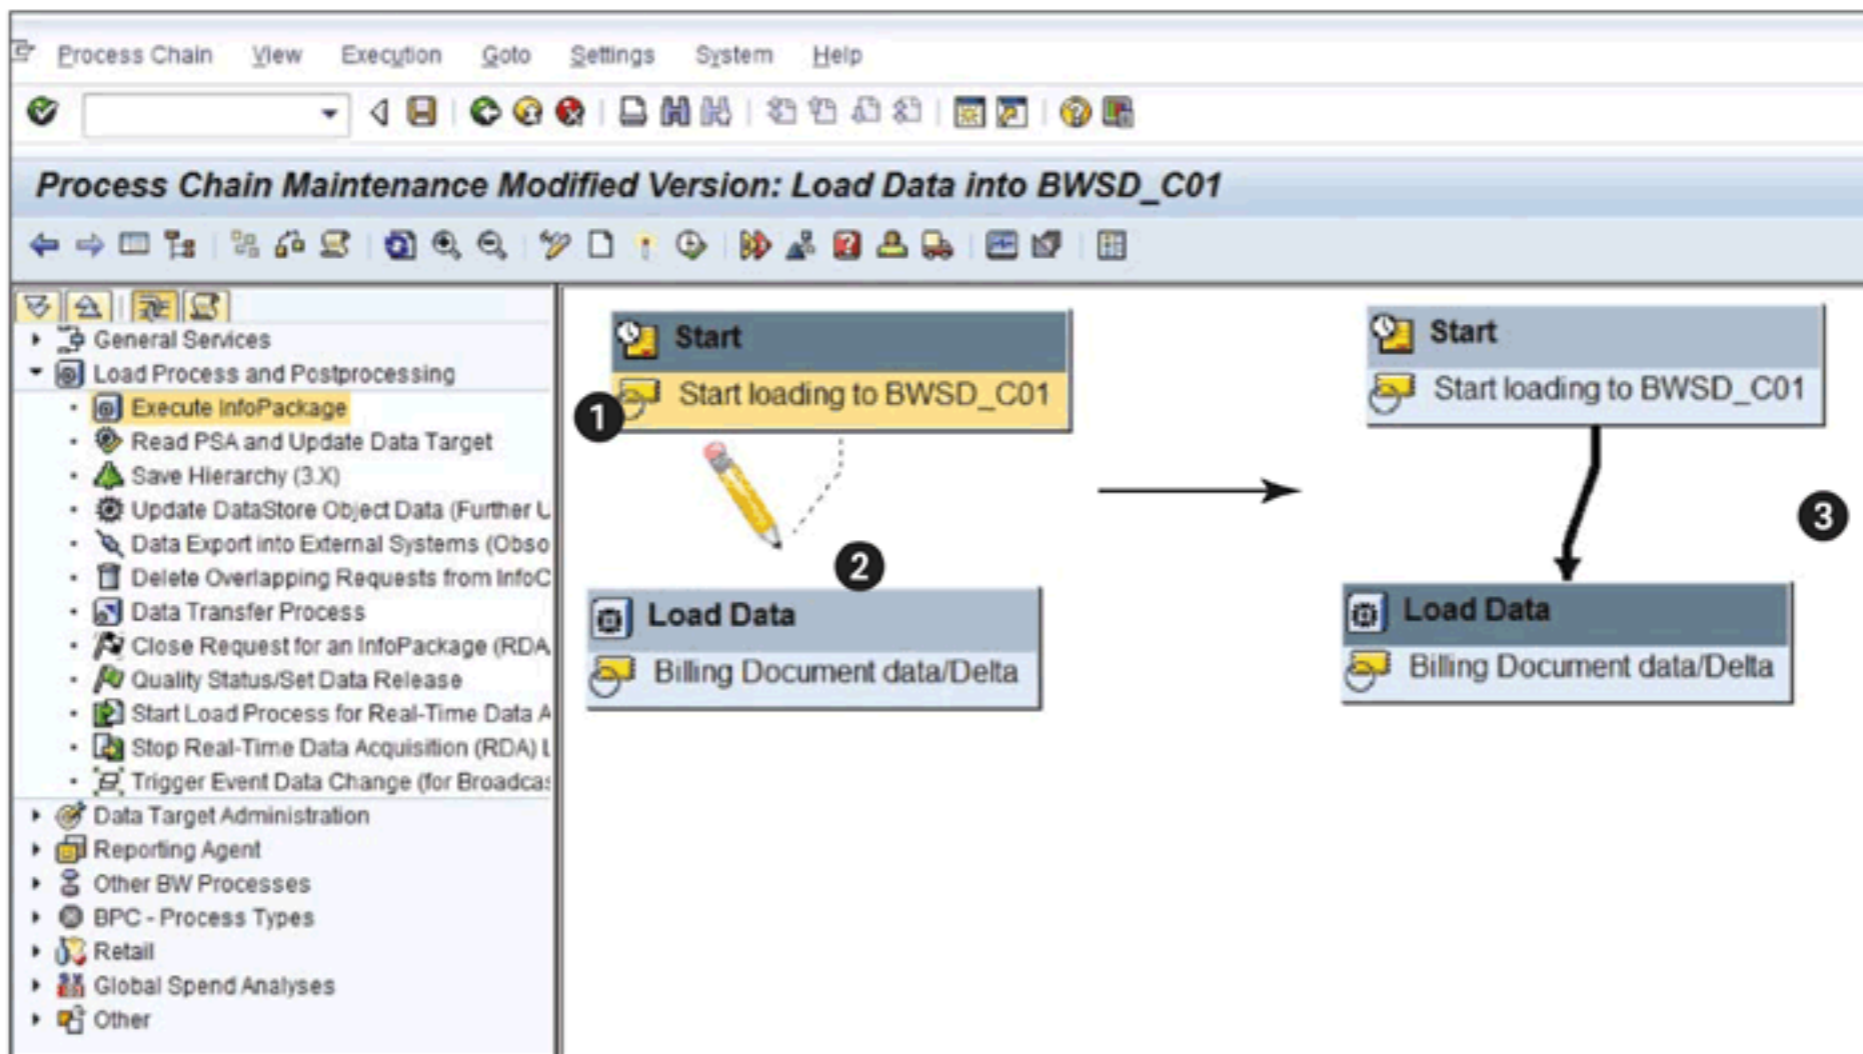

Figure 14.34 Establish a Linkage Between Elements of the Process Chain
Drag and drop this process into the right panel; the INSERT EXECUTE INFOPACKAGE pop-up box appears (2), as does another pop-up box with a list of all InfoPackages (3). Select the BILLING DOCUMENT DATA/DELTA DataSource (4), and click on the CONTINUE icon (5) to confirm the selection. INSERT EXECUTE INFOPACKAGE has an entry with the technical ID for the DataSource; confirm by clicking on the CONTINUE icon (6). The right panel now has the START process item and the LOAD DATA item (Figure 14.34).
To link the two processes for establishing the sequence, click on START PROCESS CHAIN (1 of Figure 14.34), and drag the cursor down. A pencil with a dotted line appears on the screen (2); drag the cursor to the LOAD DATA box, and the system establishes a sequence (3).